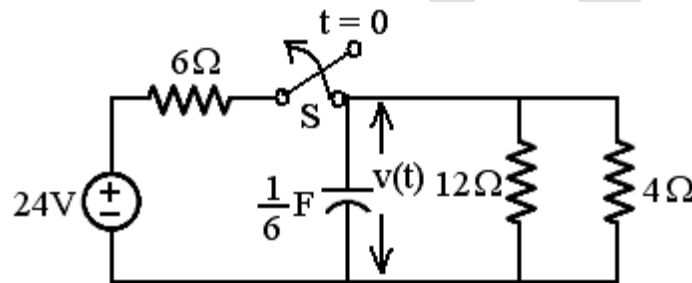

Fig.1
- 1.a) Find  $v(t)$  for  $t \geq 0$  and initial energy stored across a capacitor for the circuit shown in Fig.1. When the switch is opened at  $t = 0$ .